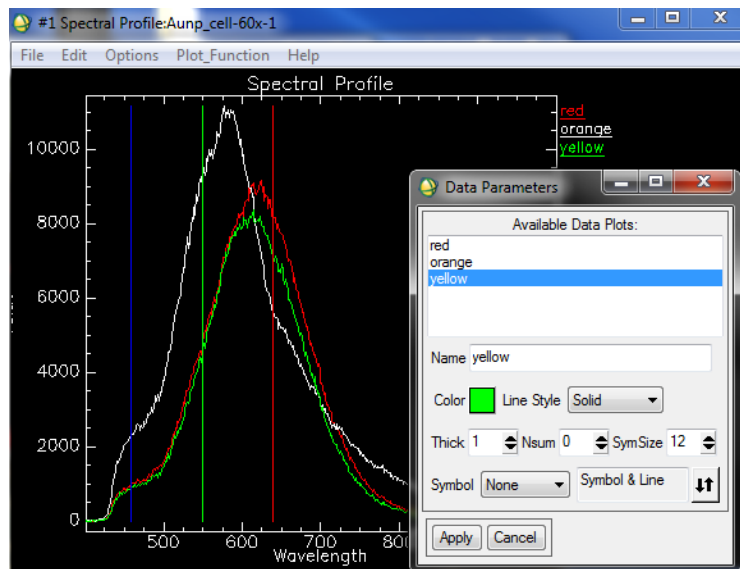

Figure 3.6a. Spectral profiles from three image features plotted together
- You may end up with three very distinct curves (Figure 3.6a). Note that the color of the spectral curve is assigned by ENVI and does not reflect the color of the feature in the display.